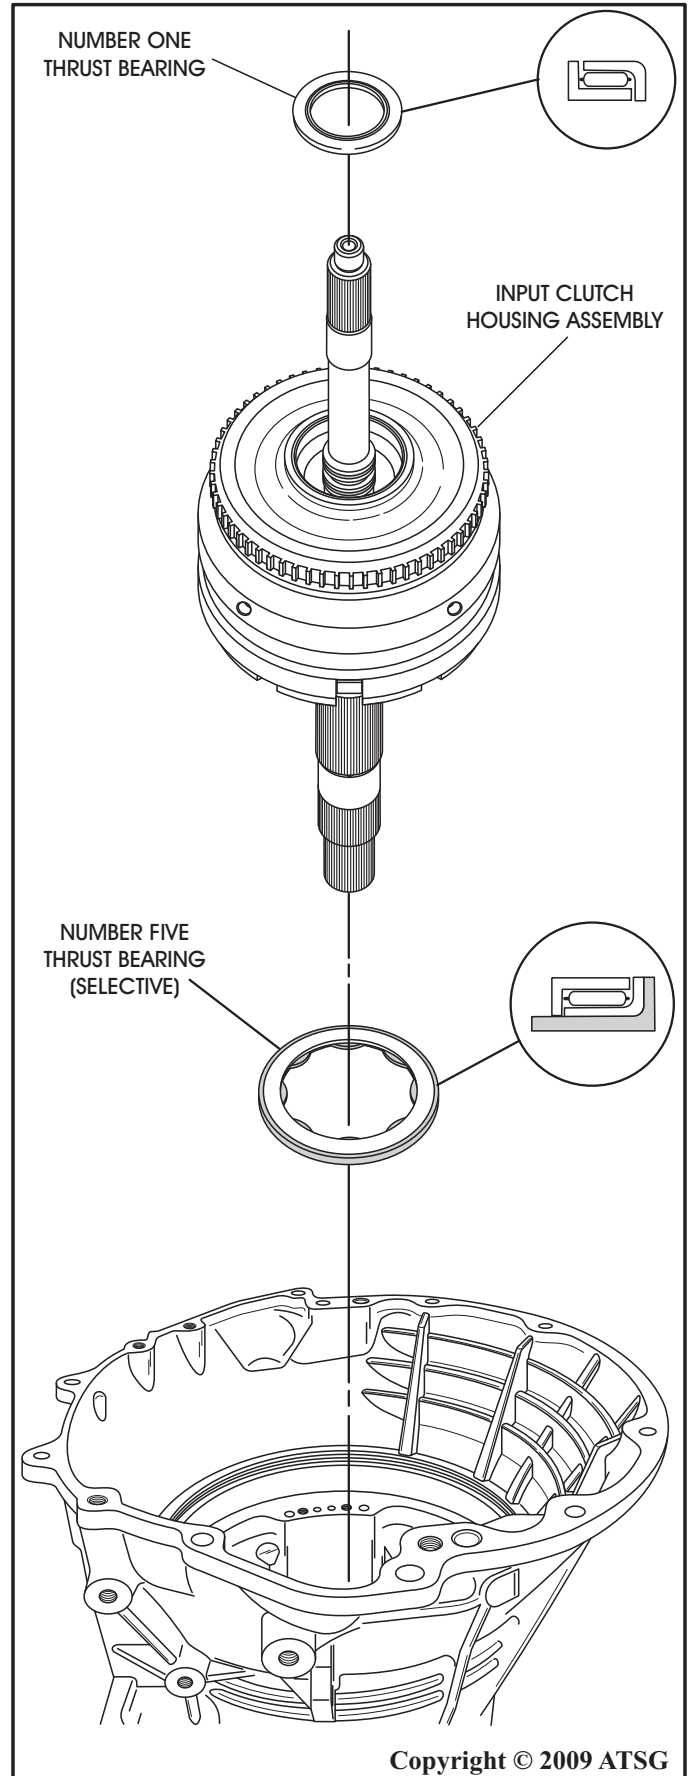

Figure 120
40. Install the number 5 selective thrust bearing on reverse clutch hub as shown in Figure 120, and retain with a small amount of TransJel®.
41. Install the number 1 thrust bearing assembly with the flat side down, into the pocket of the input housing as shown in Figure 120.
42. Install input clutch housing assembly into the transmission case (See Figure 120). Ensure that input clutch assembly is fully seated by looking through the input speed sensor hole.